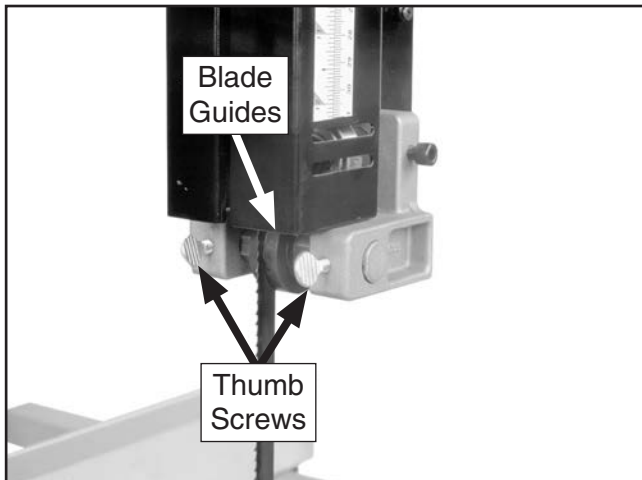

Figure 48. Upper blade guides side-to-side controls.
2. Loosen the thumb screws shown in **Figure 48**.